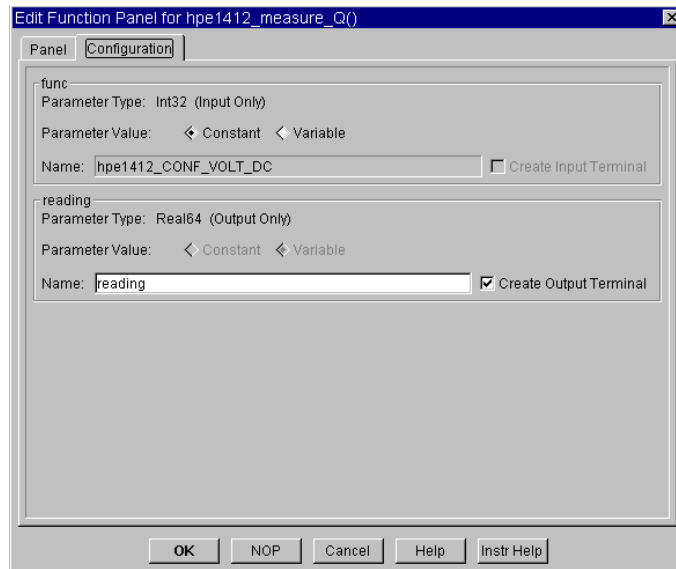

Figure 3-33. Configuration Folder in Edit Function Panel
9. In the To/From Instrument object, double-click to add a function and select `Take Measurement` under `Measure`. Click on the `Configuration` folder to display the dialog box shown in Figure 3-33.